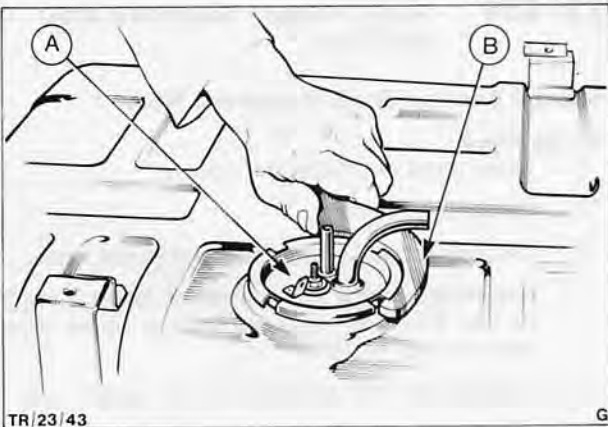

Fig. 72. Removal of tank sender unit
Using tool No. 23-009 turn unit anti-clockwise and detach from tank, Fig. 72.
- Refit tank sender unit with a NEW seal, Fig. 72.